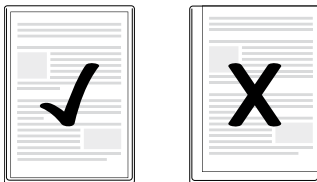

Fig. 1
- ▶ Ensure that all edges of the document have at least two millimetres of space to the edges of the laminating pouch, as shown in Fig. 1.